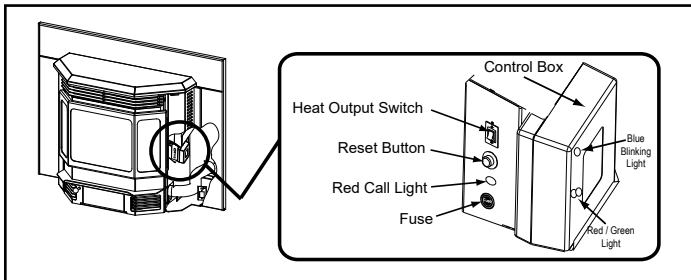

Figure 10.1
The appliance is like most modern furnaces; when the thermostat calls for heat, your appliance will automatically light and deliver heat. When the room is up to temperature and the thermostat is satisfied, the red call light will shut off and the appliance will shut down (**Figure 10.1**).
3. Locate the heat output control switch on the lower right side of the firebox in front of the right access panel (**Figure 10.1**). Set to the HIGH setting and then adjust the thermostat to its highest setting. The red call light will be on which is located on the front of the junction box behind the left access panel (**Figure 10.1**). This indicates the thermostat is calling for heat.
3. Occasionally the appliance may run out of fuel and shut itself down. When this happens, the red call light will be on (**Figure 10.1 on page 10**). To restart it, fill the hopper and press the reset button (**Figure 10.1 on page 10**). When you press the reset button the red call light will go out. Release the button and the light will come back on. You should see a fire shortly. If not, follow **Starting Your First Fire** on page 10.